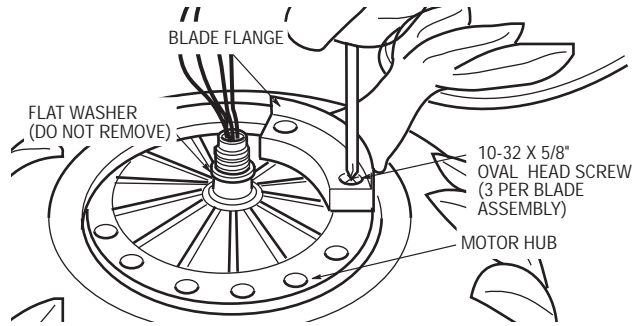

Figure 10
- 15. Loosely attach one blade assembly to the motor hub using two 10-32 x 5/8" oval head screws (supplied) (Figure 10). Make sure the screws are NOT tightened at this time. Repeat this procedure for the four remaining blade assemblies.